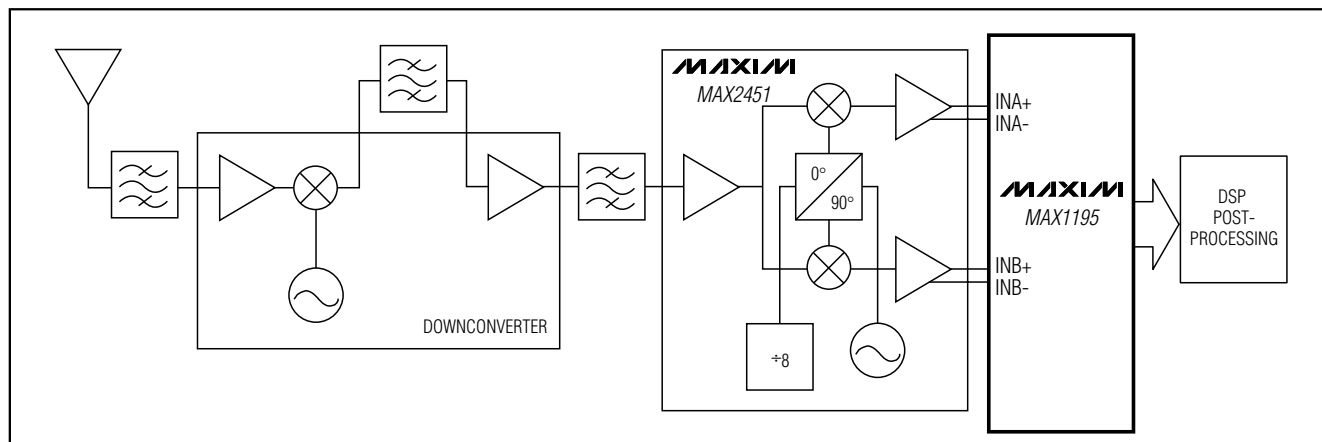

Figure 10. Typical QAM Application Using the MAX1195
quadrature outputs, a local oscillator followed by subsequent upconversion can generate the QAM signal. The result is an in-phase (I) and a quadrature (Q) carrier component, where the Q component is 90° phase shifted with respect to the in-phase component. At the receiver, the QAM signal is divided down into its I and Q components, essentially representing the modulation process reversed. Figure 10 displays the demodulation process performed in the analog domain, using the dual matched 3V, 8-bit ADC MAX1195 and the MAX2451 quadrature demodulator to recover and digi-